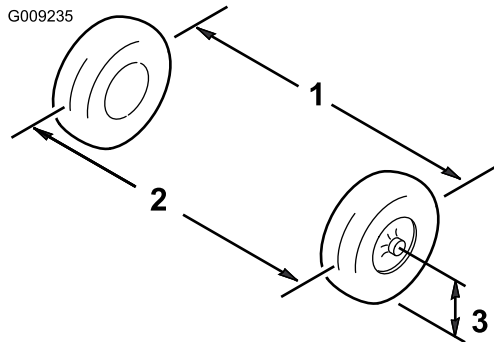

Figure 83
5. Measure the distance between both of the front tires at the axle height at both the front and rear of the front tires (Figure 83).